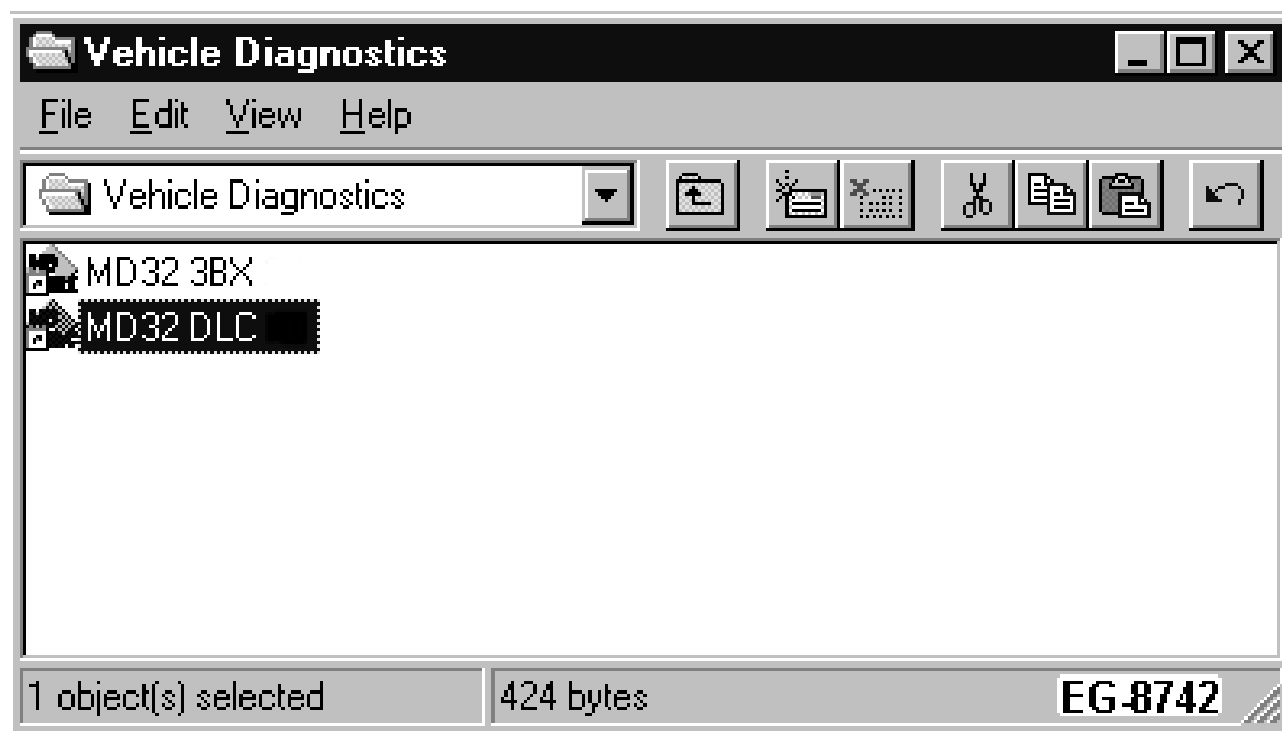

Figure 168
2. Start the Master Diagnostics. Select the single box ECM application (MD32 DLC) (See Figure 168, page 364). Selecting the wrong application will give you erroneous readings.